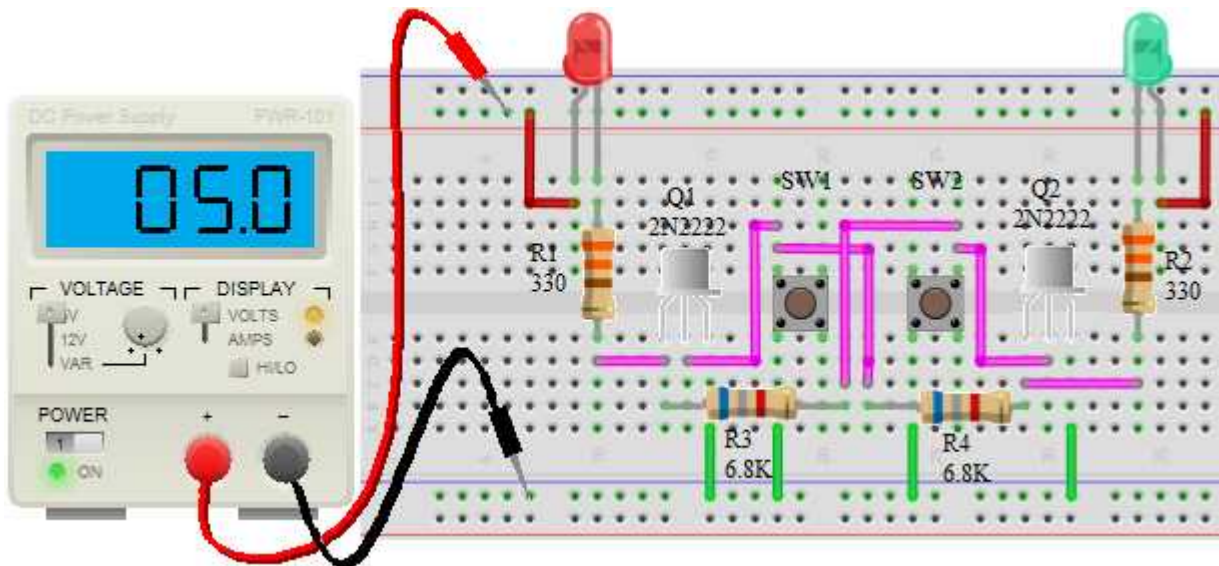

Figure 6-32: Bistable multivibrator circuit connection
1. Connect the circuit as illustrated in figure 6-32. Make sure you have identified the anode and cathode of light emitting diodes. The anodes have to be connected to the positive of the supply and the cathode to the collector of the transistors Q_1 and Q_2 through the resistors R_1 and R_2 respectively. Locate the emitter of the transistors and connect them to ground. Connect the push button switches SW_1 and SW_2 between the base of transistor Q_1 and Q_2 respectively and ground. Connect the resistor R_3 between the collector of Q_1 and the base of Q_2 . Connect the resistor R_4 between the collector of Q_2 and the base of Q_1 .